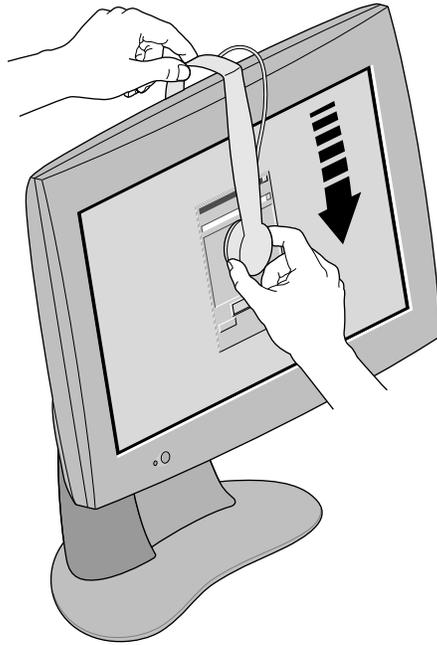

Figure 2-4 Attaching the ColorLock Sensor to the Flat Panel Monitor
2. Attach the ColorLock sensor to the flat panel monitor, as shown in Figure 2-4.